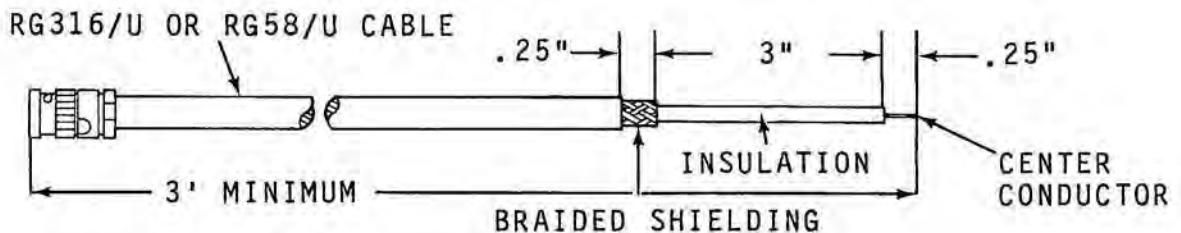

Figure B-1 Flexible Coax Cable Preparation
1. Prepare length of flexible coax cable as shown in Figure B-1 below: